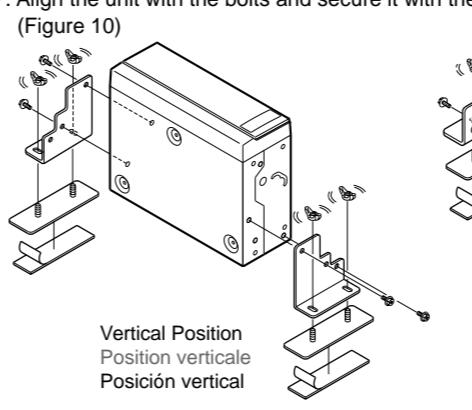

Figure 6 / Figure 6 / Figura 6
- Use the wing nut to hold in place the installation bracket with bolt to the installation bracket, which is attached to the unit. Then affix the cushion rubber. (Figure 6, 7)